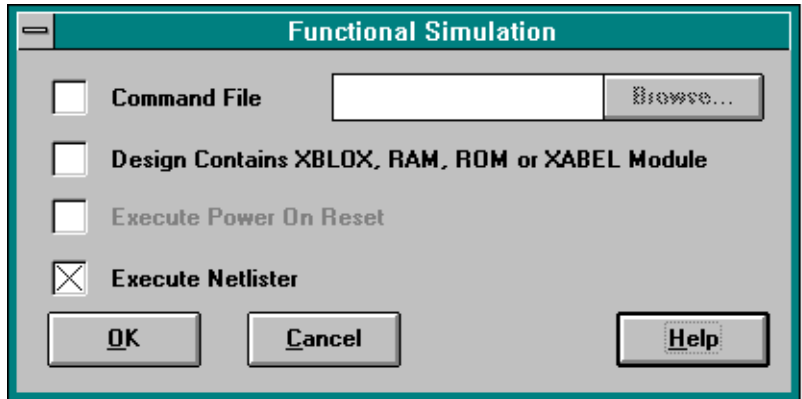

Figure 2-13 Functional Simulation Dialog Box
2. Select **Schematic** as the Type of design. You should see the fsm.1 file in the Design Name field. Make sure the Start PROcapture box is NOT checked. The dialog box should look like Figure 2-13 after these changes: